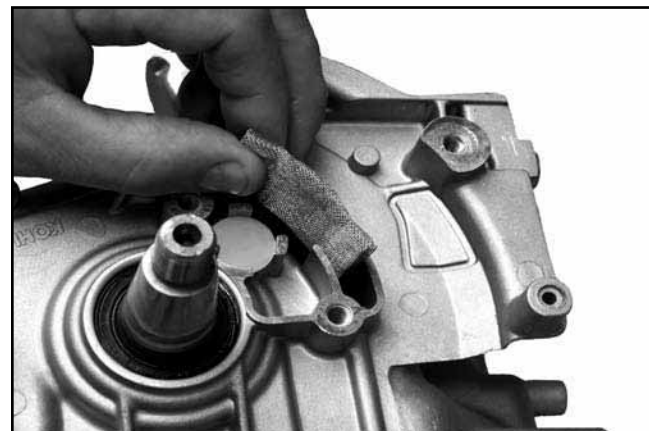

Figure 8-31. Removing Spring, Disc, and Screen
2. Remove the breather spring, disc and screen. See Figure 8-31.